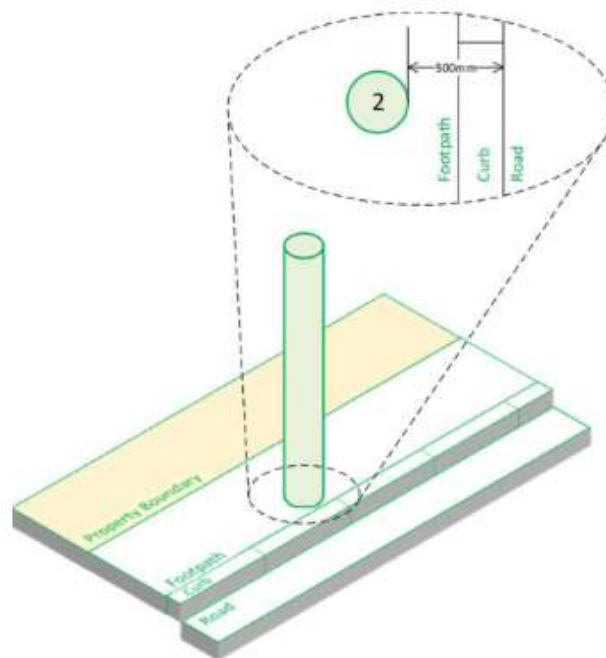

Figure 4 - Pole Siting at Curb Edge
- Wherever possible, the pole position should be a minimum of 500mm from the Kerb Stones or other edges (Figure 4).